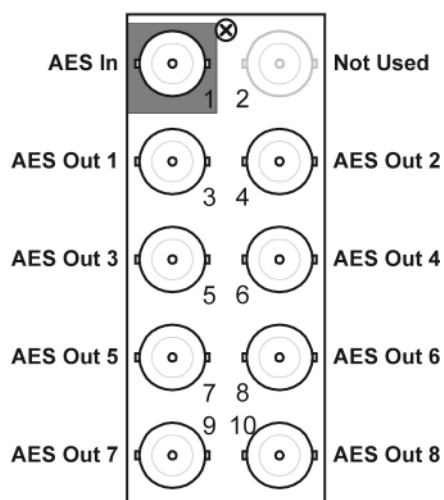

Figure 2.2 Cable Connections for the RM20-9913DA75-A Full Rear Module
- **RM20-9913DA75-A Full Rear Module** — Each module occupies two slots and accommodates one card. This rear module provides one AES input and eight AES outputs. (**Figure 2.2**)